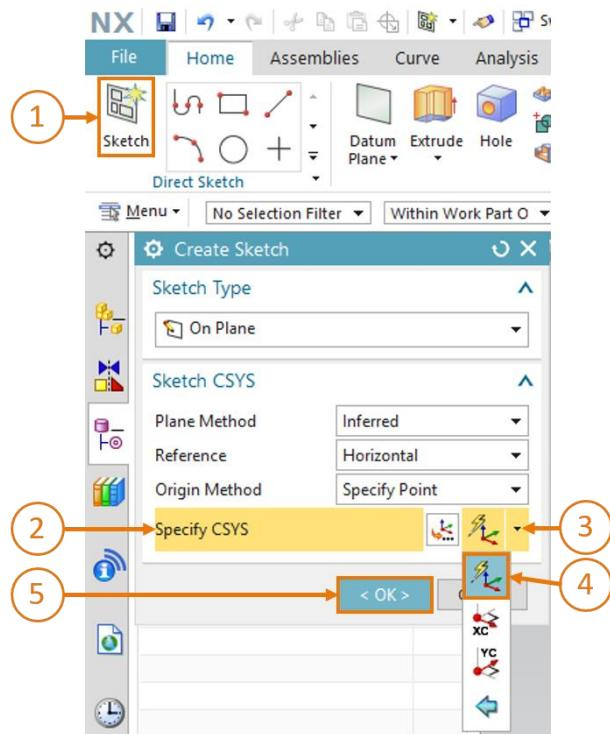
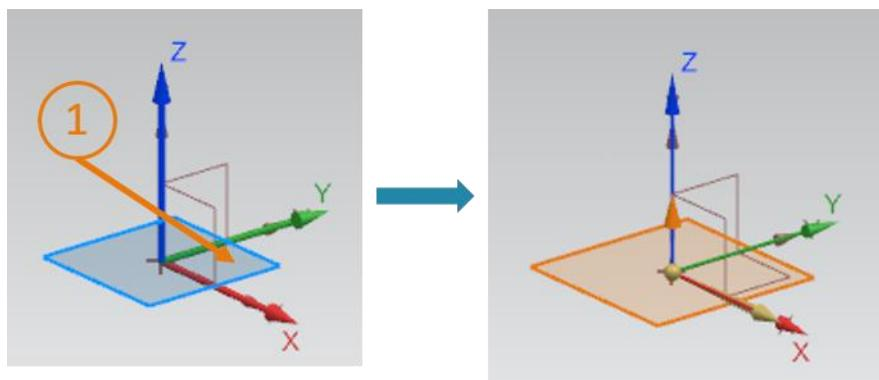

Figure 9: Creating a sketch in NX – Part 1
Figure 10: Creating a sketch in NX – Part 2
→ You begin creating a new sketch in two-dimensional space. To do this, click the "Sketch" button, as shown in Figure 9, step 1. The "Create Sketch" window opens. Here, you should have set the following parameters:
- Then select "Specify CSYS" in the window (see Figure 9, step 2). Open the associated selection list (see Figure 9, step 3) and select the "Inferred" method (see Figure 9, step 4).
- Select the X/Y plane in the graphics window, as indicated in Figure 10, step 1. This plane should now change from blue to orange. An orange orientation arrow in the positive direction along the Z axis also appears in this case. The plane for drawing the sketch is thereby selected, and all you have to do is confirm by clicking the "OK" button in the "Create Sketch" window (see Figure 9, step 5).